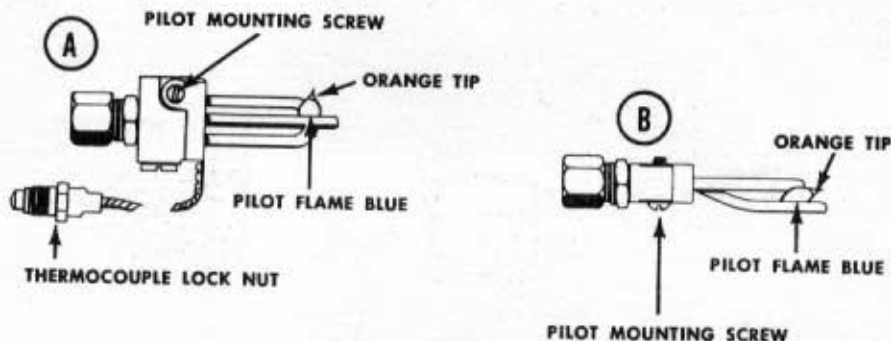

FIGURE 4
NOTE: For instructions on how to adjust pilot flame, see Figure 4, Page 5.
If the pilot flame does not have a small orange tip the pilot is not getting enough gas. (See Figure 4-A above). The flame should be about $\frac{1}{4}$ of an inch in vertical height when the water in the tank is cold and the burner is off and a flame $\frac{1}{4}$ to $\frac{3}{8}$ of an inch in horizontal length when the tank is warm. (See Figure 4-B above). A large orange flame indicates excessive gas supply resulting in short pilot life and early replacement. The pilot has been properly adjusted at the factory and should operate with a blue orange tipped flame enveloping the pilot thermocouple. Removal of the "pilot adjustment cap" will reveal the pilot adjustment screw. (See pages 3 & 4 for location). Turning this screw clock-wise reduces the flow of gas to the pilot (blue flame) and counter clock-wise the gas supply is increased (orange flame). Always replace the "pilot adjustment cap" to prevent gas leakage.
F. Remove the main burner orifice holder by detaching from the tubing leading from the control to the burner. Carefully pull the burner and pilot assembly from the combustion tube. To remove pilot from burner, unscrew the pilot mounting screw (figure 4, page 5).
6 PRESSURE REGULATION: All units using bottled gas (Black Orifice) must carry eleven (11) inches water column pressure at the appliance with all other gas appliances operating (burning). Units burning natural gas must be equipped with natural gas main burner orifice (color: natural brass or yellow) and regulated to $3\frac{1}{2}$ inches water column pressure. No change in the pilot orifice is required. However, the safety pilot must be readjusted for any new gas. See page 5, figure 4 on Pilot Flame Adjustment. (For complete details, write for BOWEN Info-Gram #S6A.)